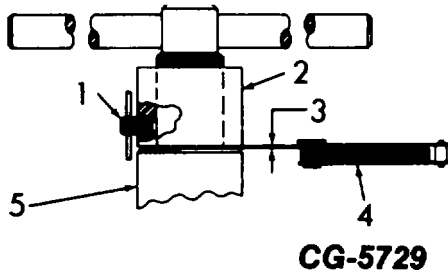

Figure 27. - Operation of Counterboring Tool
- a. Loosen locking screw (1, Fig. 27).
- b. Rotate adjusting nut (2) in counter-clockwise direction until tool bit is resting on the lowest part of the counterbore ledge and there is clearance between the housing (5) and the adjusting nut.
- f. Tighten locking screw (1, Fig. 27) securely and remove feeler gauge (4) if this ALTERNATE method is used.
- g. Hold down on the handle applying more pressure on tool bit side and rotate clock-wise until the unit turns freely and is bottomed out between the adjusting nut (2) and top of the
- b. Regrind tool bits as shown in Fig. 27.